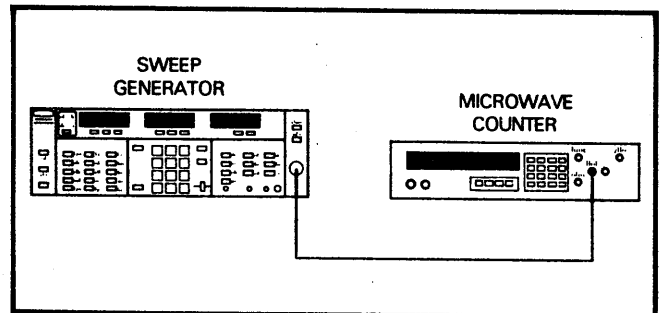

Figure 4-1. Test Equipment Setup for Frequency Accuracy Tests
1. Connect the test equipment as shown in Figure 4-1, and turn the equipment on.